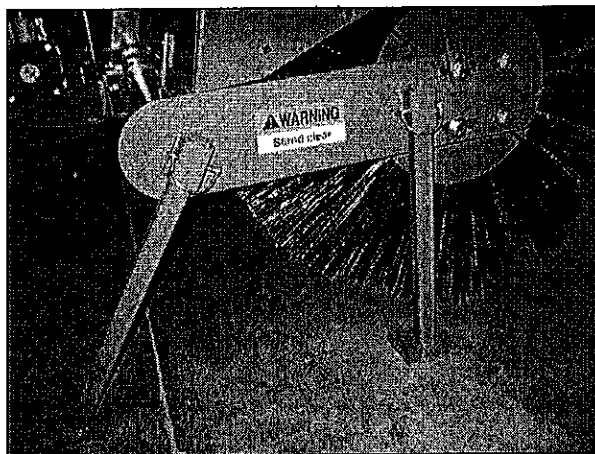

Figure 13
17. Install storage stands. Figure 13 shows stands fully installed.